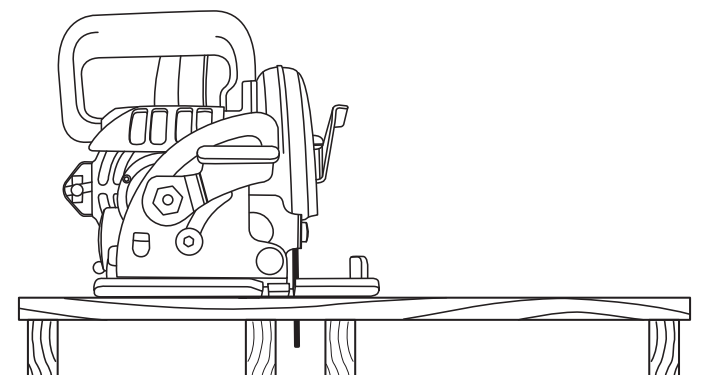

Fig. 8
- Support the workpiece properly before beginning a cut as shown in figure 8.